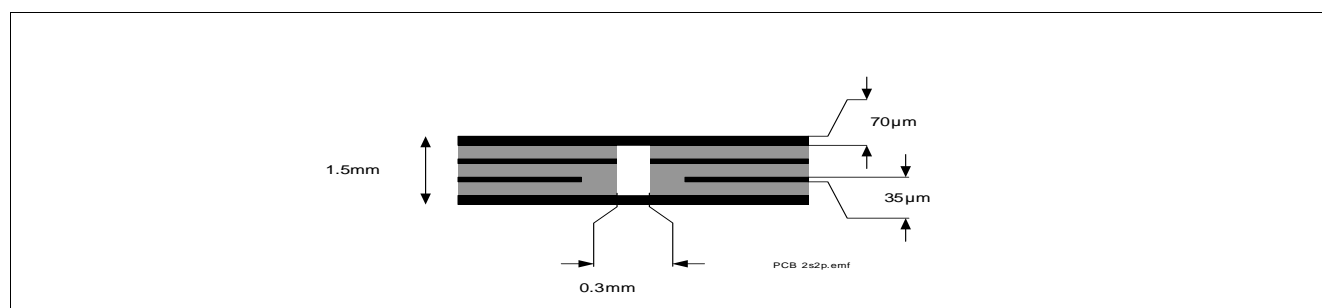
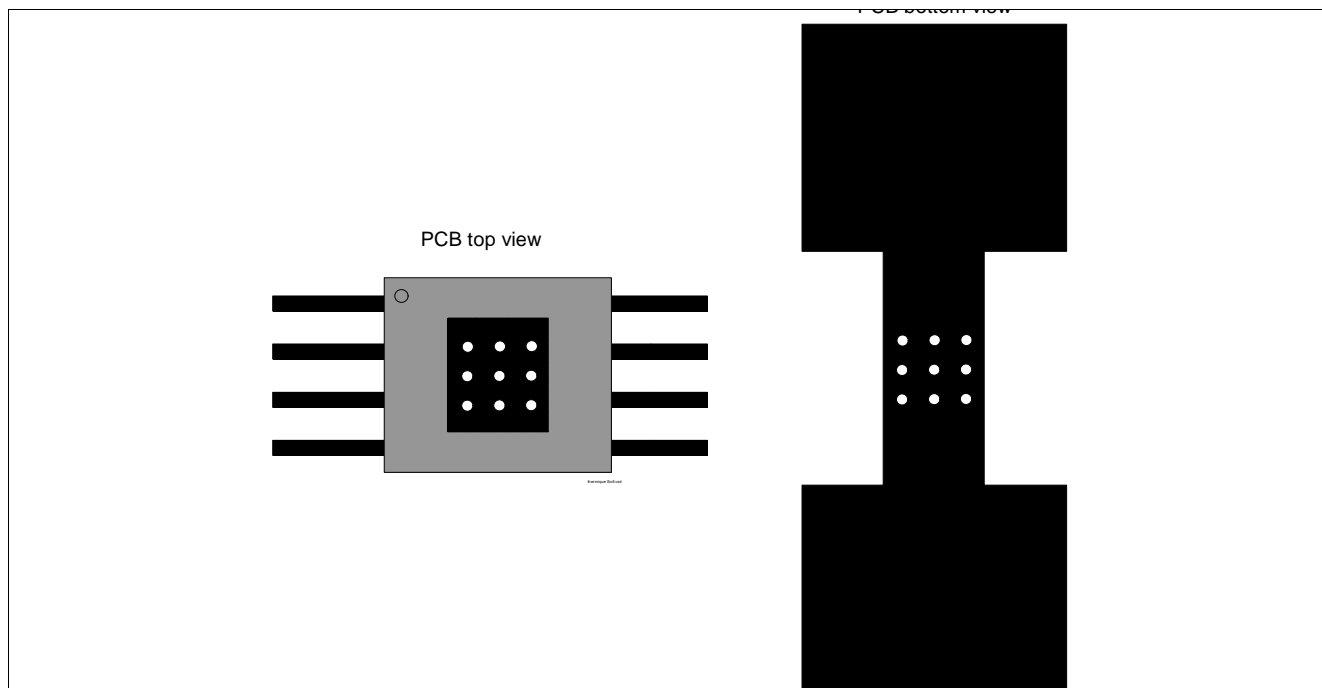

Figure 4 2s2p PCB Cross Section
Figure 5 PC Board Top and Bottom View for Thermal Simulation with 600mm² Cooling Area
2) Specified R_{thja} value is according to JEDEC JESD51-2,-5,-7 at natural convection on FR4 2s2p board; The product (chip + package) was simulated on a 76.4 x 114.3 x 1.5 mm board with 2 inner copper layers (2 x 70 μ m Cu, 2 x 35 μ m Cu). Where applicable, a thermal via array under the exposed pad contacts the first inner copper layer. Please refer to Figure 4 and Figure 5.